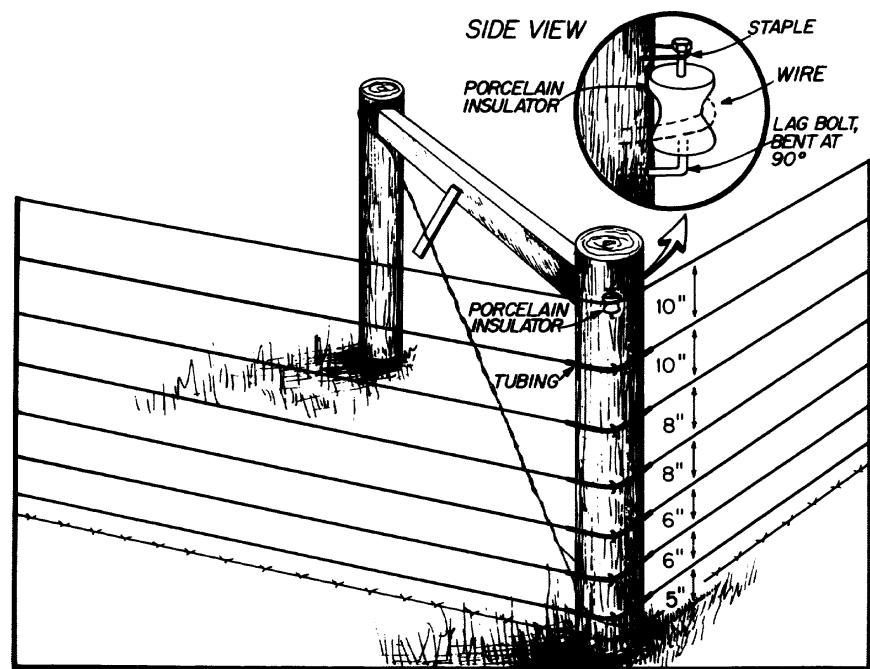

Figure 5.—Single-span strainer assembly at a corner.
assemblies, erected in the angle of the corner (Figure 5), use fewer materials but are reputed to be as strong as conventional corners.
**Corners: angle assemblies.** Angle corner assemblies are single-span assemblies placed in the angle of fence corners (Figure 5, page 5). Construct them exactly like single-span assemblies. The post at the corner should lean 2 inches away from the direction of pull.